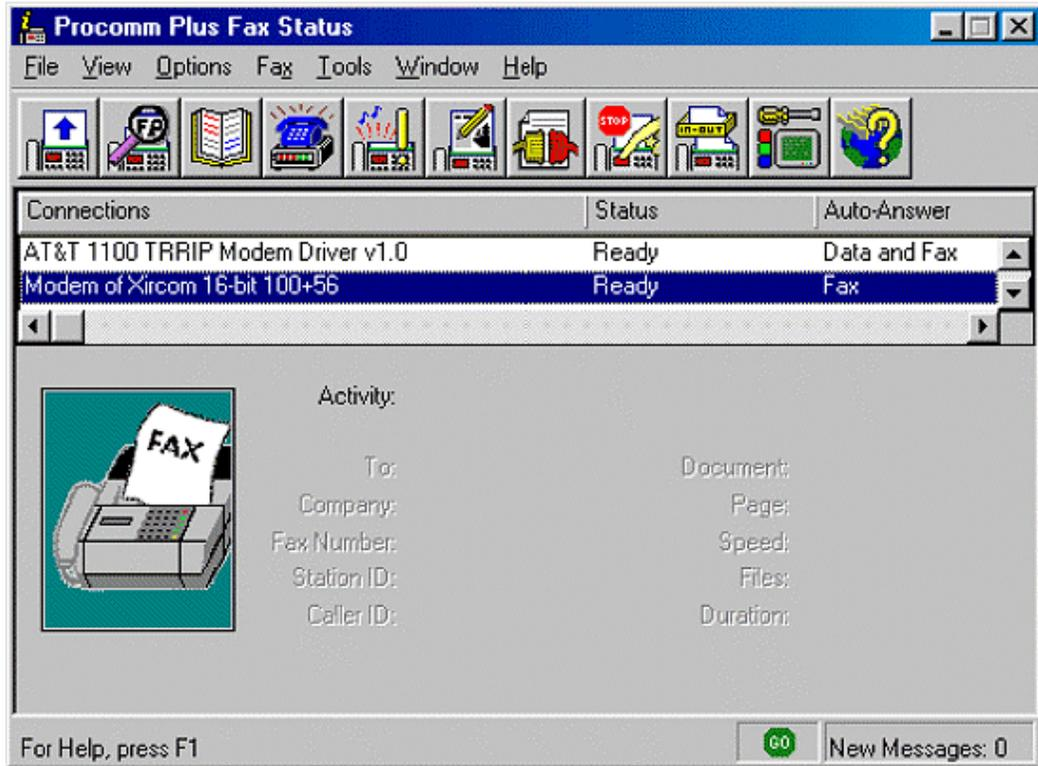

Figure 29 ProComm Plus Fax Status
- Fill in the **Send to** box and the **FAX number** box, then click Send. This will bring up a screen similar to that shown in Figure 29.
- Click on Xircom card in the list shown in Figure 29 to view the sending status of the fax.
- Double-click the **ProComm Fax Status** icon to open a window similar to that shown in Figure 29. The system is ready to automatically receive a FAX.